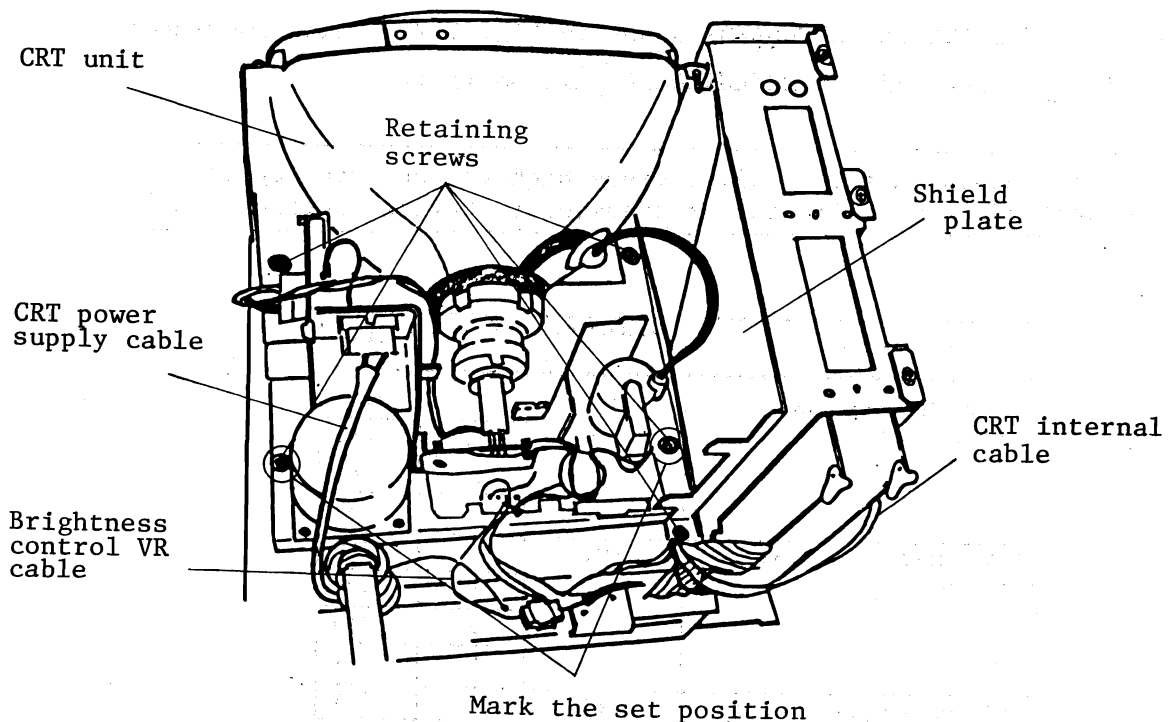

Fig. 5.2.7
- ① Remove both rear and upper covers (see paragraph 3.1)
- ② Disconnect brightness control VR cable and CRT power supply cable from CRT unit and CRT internal cable from CRT-CONT 2 B/W P.C.B.
- ③ As shown in Fig. 5.2.7, mark set position of CRT unit.
- ④ Remove five retaining screws (Fig. 5.2.7) of CRT Unit, and remove it from MAIN UNIT.